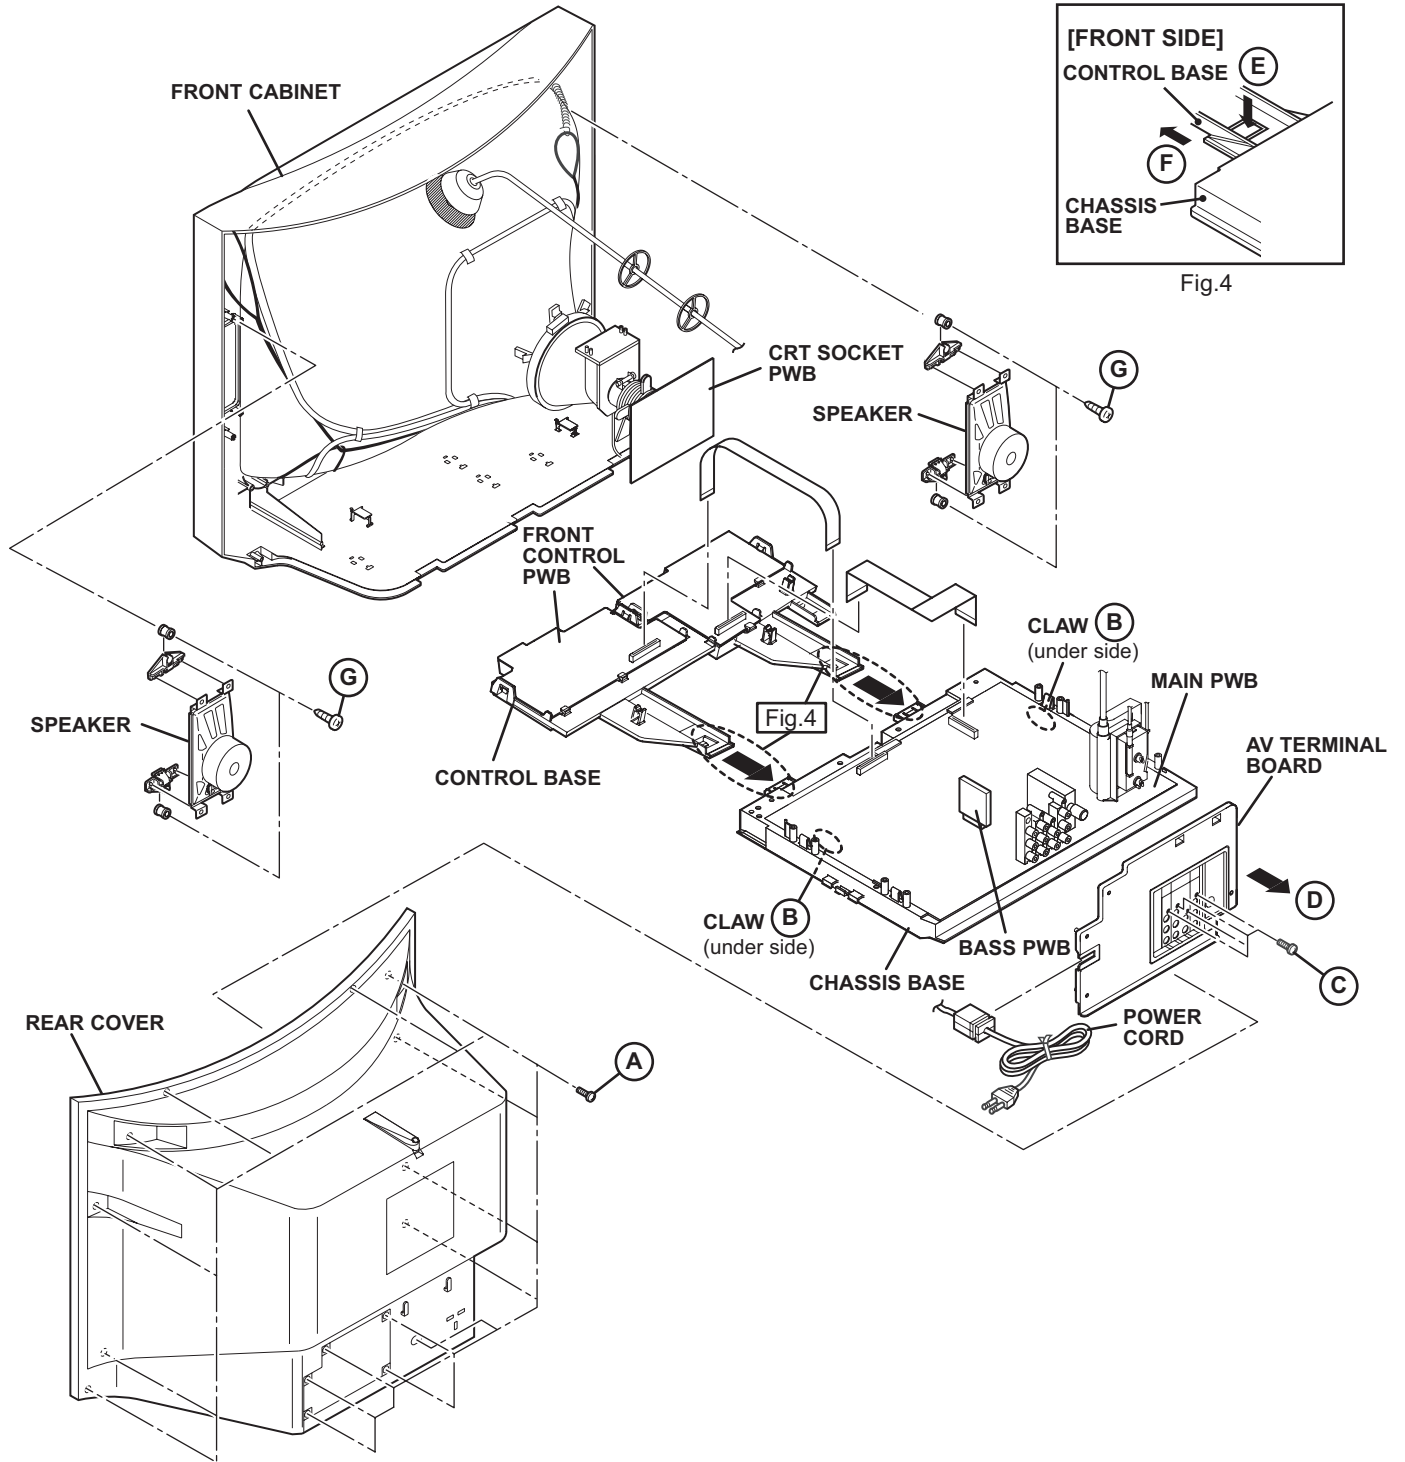

Fig.3
- (1) Remove the 16 screws [A] as shown in Fig.3.
- (2) Withdraw the REAR COVER toward you.
- (1) Slightly raise the both sides of the CHASSIS by hand and remove the 2 claws [B] under the CHASSIS from the front cabinet as shown in Fig.3.
- (2) Withdraw the CHASSIS backward.
- (1) Remove the 4 screws [C] as shown in Fig.3.
- (2) When you pull out the AV TERMINAL BOARD in the direction of arrow [D] as shown in Fig.3, it can be removed.
- (1) Remove the 2 screws [G] as shown in Fig.3.
- (2) Withdraw the SPEAKER backward.
- (3) Follow the same steps when removing the other hand SPEAKER.